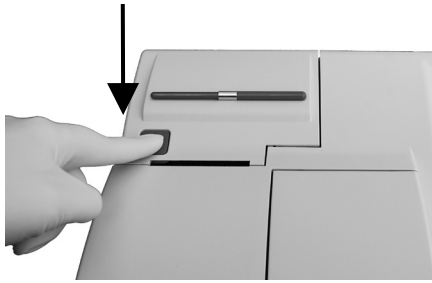

Fig. 2-11 Open Printer Cover
- Press the red printer release button on the printer cover to access the printer (Fig. 2-11).